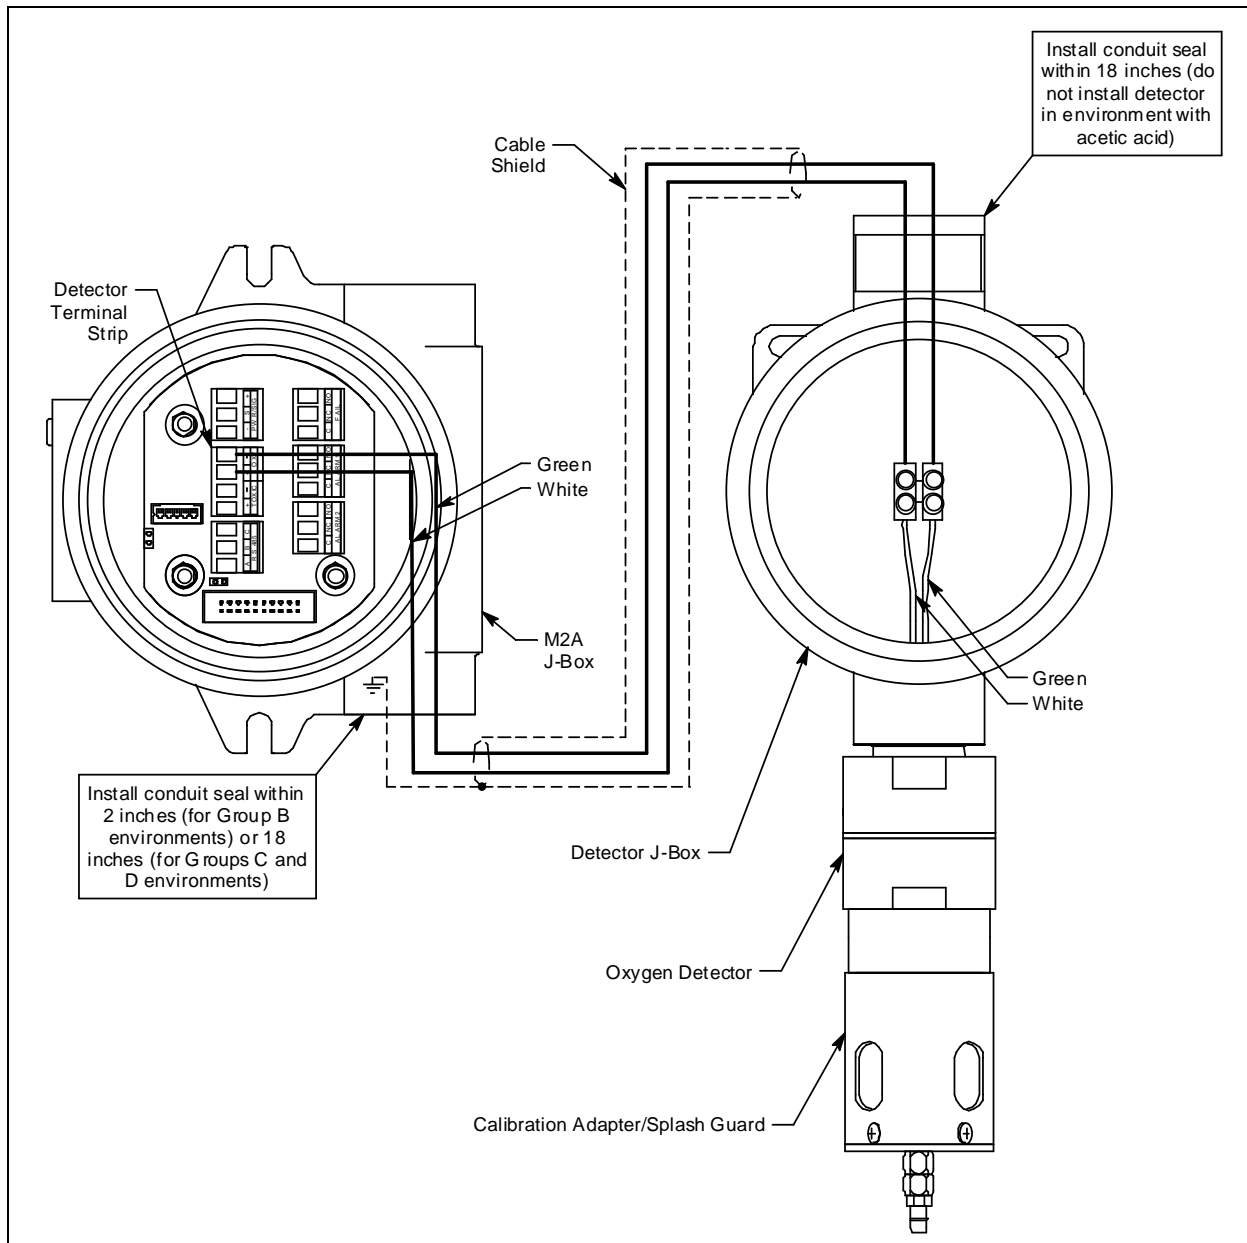

Figure 8: Wiring the Detector to the M2A
7. To maintain the explosion proof classification of the junction boxes, conduit seals must be installed as shown in Figure 8. Adhere to your local electrical code when installing the conduit seal.
14. Pull out the detector terminal strip and connect the two wires to the terminal strip as follows (see Figure 8).
1. To maintain the explosion proof classification of the M2A junction box, a conduit seal must be installed within 2 inches (for Group B environments) or 18 inches (for Groups C and D environments) of the M2A’s left conduit hub, in addition to the conduit seals shown in Figure 8. Adhere to your local electrical code when installing the conduit seal.